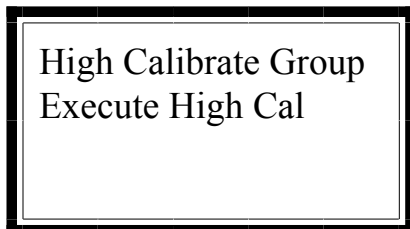

Figure 10c: Executing the High Calibration Variable.
4) Locate the Execute High Cal Menu Variable, Figure 10c, and press the MODify key. Follow the two remaining prompts.